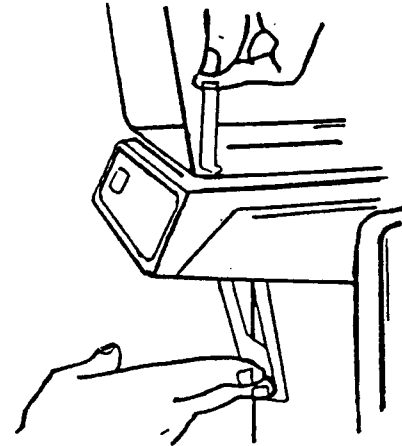

Fig. 7
- d. Carefully insert pinch tube into bowl spout opening and on into lower opening of handle support spout. Make sure end of tube does not get caught on edge above handle support spout opening, pull end of tube for final seating into bowl spout seat. make sure tube is free of wrinkles and extends below support spout above $\frac{1}{4}$ inch (see Fig. 7).